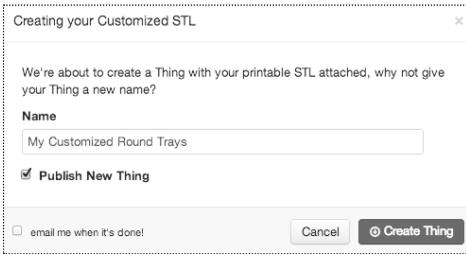

Fig. 13.4
**Create Thing:** Click this button to begin generating the STL file. [Fig. 13.4]